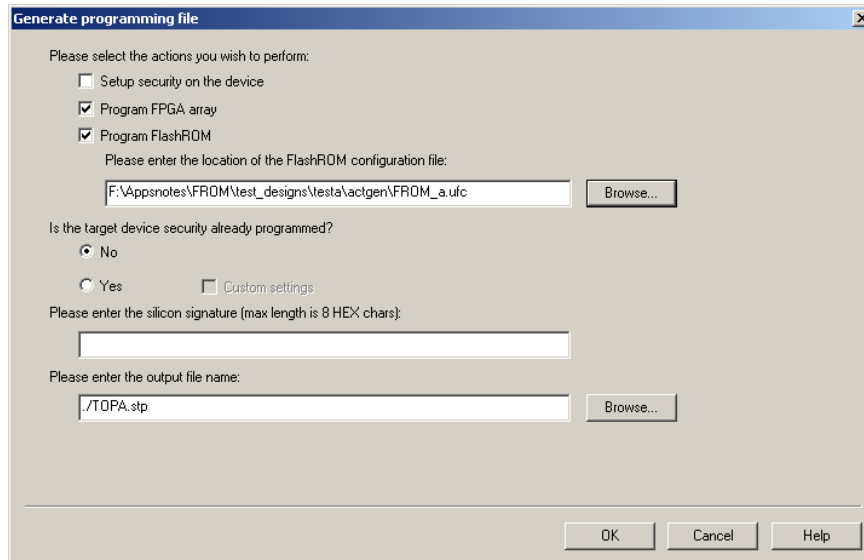
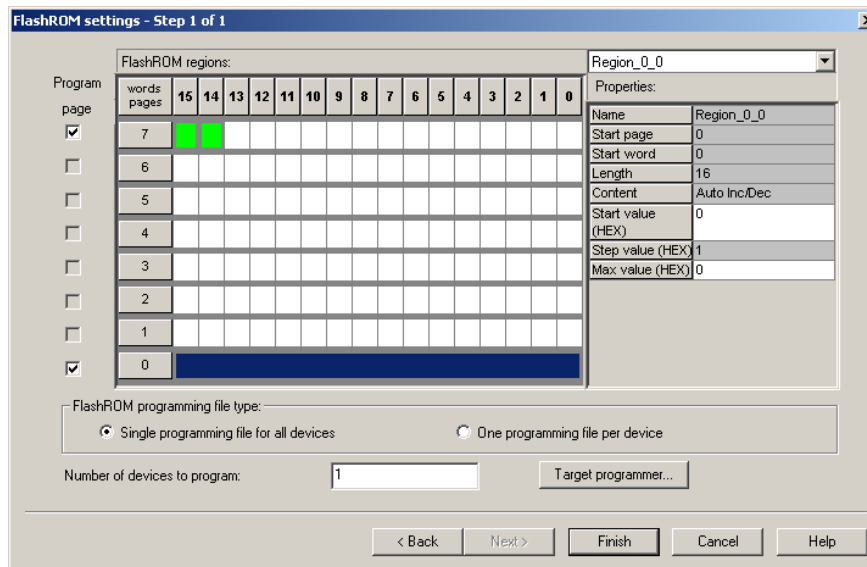

Figure 5-12 • Programming File Generator
Figure 5-13 • Setting FlashROM during Programming File Generation
Figure 5-12 shows the programming file generator, which enables different STAPL file generation methods. When you select **Program FlashROM** and choose the UFC file, the FlashROM Settings window appears, as shown in Figure 5-13. In this window, you can select the FlashROM page you want to program and the data value for the configured regions. This enables you to use a different page for different programming files.
3. Select **Programming File in Designer** and open **Generate Programming File** (Figure 5-12 on page 144).
4. Click **Program FlashROM**, browse to the UFC file, and click **Next**. The FlashROM Settings window appears, as shown in Figure 5-13 on page 144.